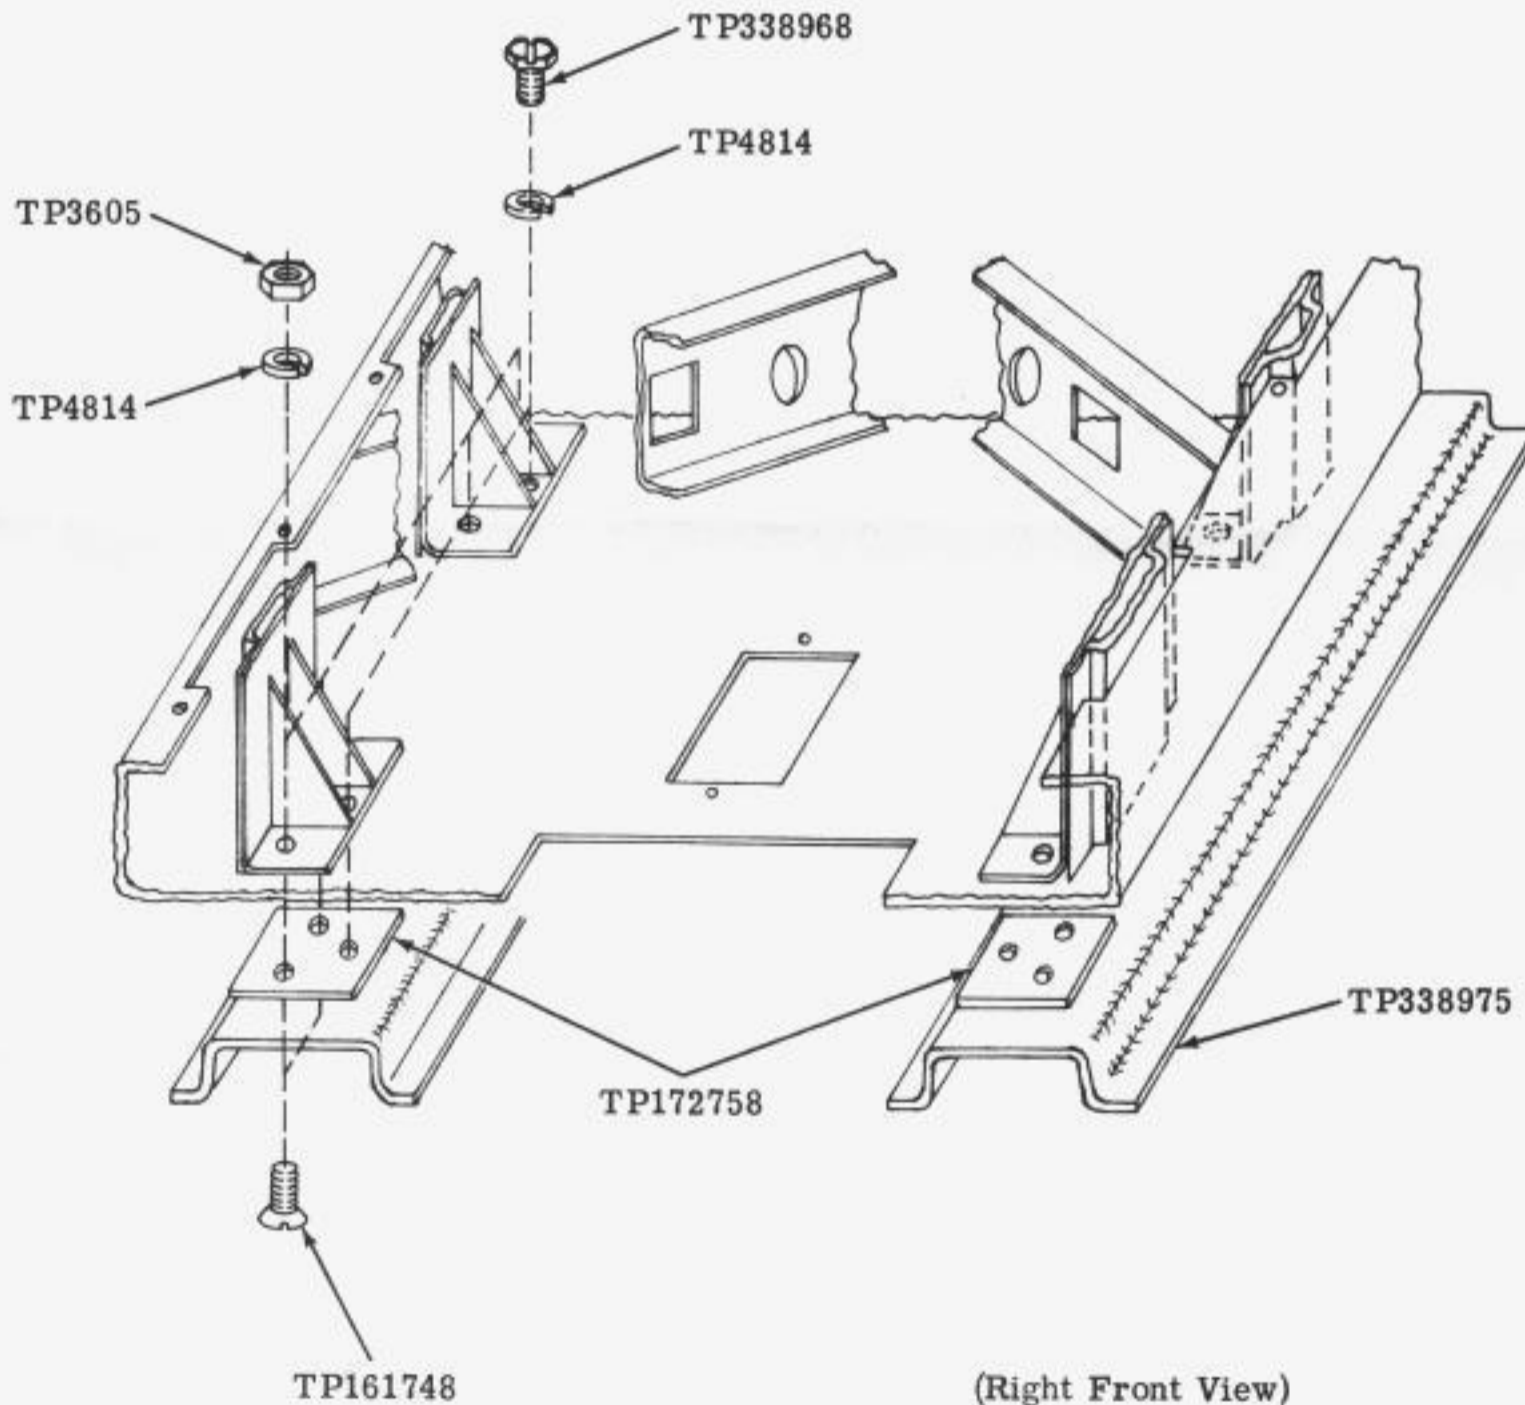

Figure 23 - Channel Mounting Brackets
(1) Assemble channel mounting brackets TP338975 to cabinet pads TP172758 using lockwashers TP4814 and hex screws TP338968 as shown in Figure 23.
(2) Position cabinet to rest firmly on channel mounting brackets TP338975.
(3) After final assembly, check cabinet for any rocking motion or a twist within the cabinet. If either of these conditions exist, place shim(s) (not provided) between cabinet pad TP172758 and channel bracket TP338975 until condition is corrected.